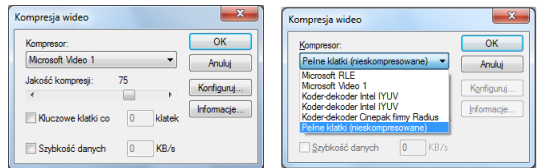

Fig. 479 – selecting a codec
- in the next step – if it is the first time that an AVI file is saved to the disk after running CAD Decor PRO program – it is necessary to select the codec (Fig. 479)